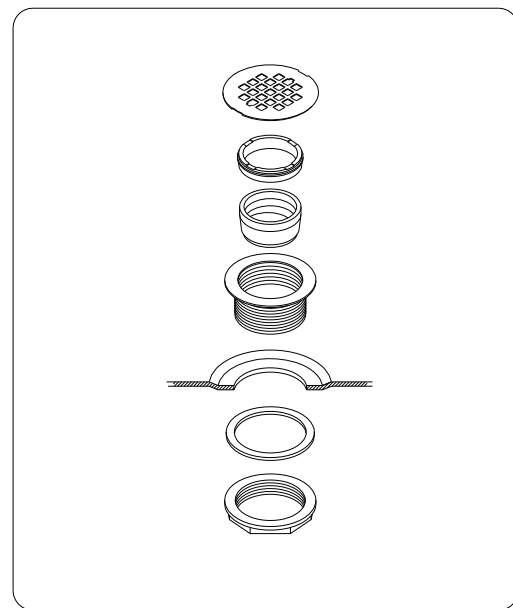

Fig. 2
2. Install the shower drain onto the tray according to the drain installation manual (supplied with the drain). See fig. 2 for details.